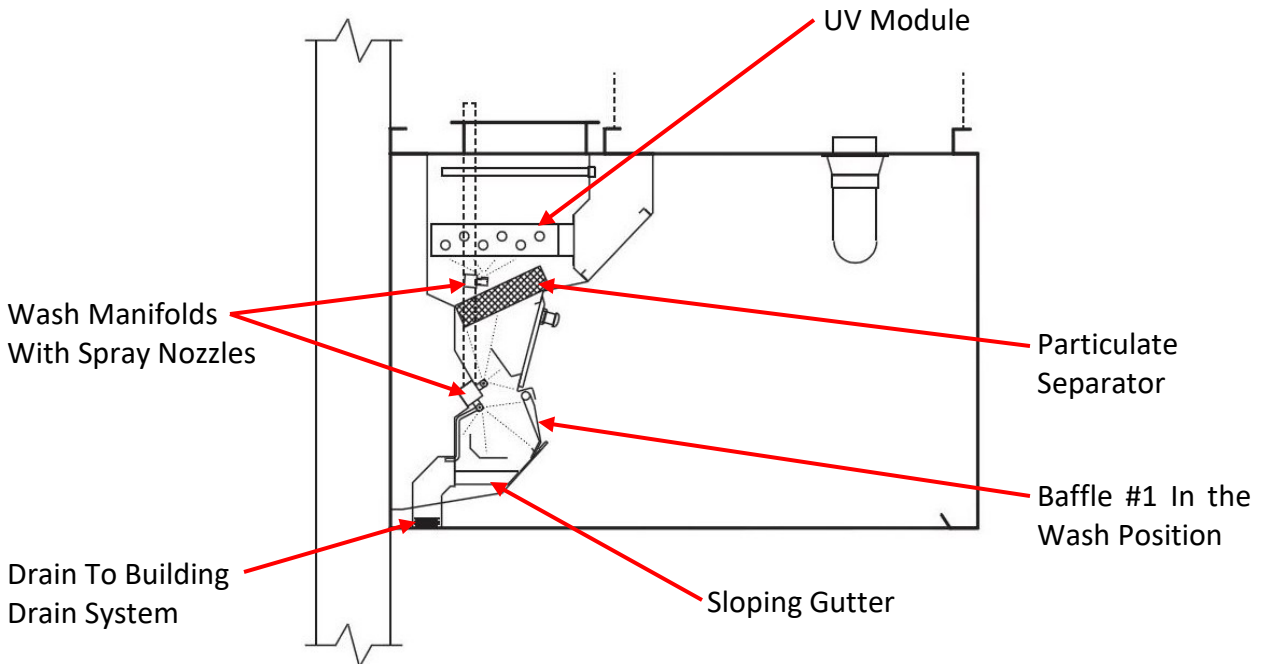

Figure 3-6-1
3. Baffle #1 begins closing forward to the wash position (Refer to Figure 3-6-1). This action takes approximately 45 seconds. **Note:** Baffle #1 only move to the wash position on Models CG3-UVi and CG3-UVi-FDL Series. Baffle #1 is fixed on Models CG3-UVi-FDT, CG3-UVi-FDD and CG3-UVi-ND. Refer to pages 1-5 and 1-6 for complete explanation. **Important Note:** Refer to your Command Center Technical Manual for specific text displayed while the baffle #1 is moving to the wash position.
4. After baffle #1 closes to the wash position, the Wash Cycle comes on spraying hot, detergent injected water, through the spray nozzles washing away the day's grease, dust and lint accumulation from the baffles, the particulate separator, and gray dust from the UV Module, flushing it down to the main gutter which slopes to drain that leads to the building drain system (Refer to Figure 3-6-1). The Wash Cycle stays on for the length of time programmed in the Command Center. The typical wash times are 3 minutes for light-duty equipment, 4 minutes for light /medium duty equipment, 5 minutes for medium- duty equipment, 7 minutes for heavy-duty equipment and 9 minutes for extra heavy duty equipment. **Important Note:** Refer to your Command Center Technical Manual for specific text displayed while the Ventilator is in a Wash Cycle.
2. At the conclusion of a Wash Cycle, open the Extractor Inspection Doors and remove the Particulate Separators (Refer to Figure 3-6-1). Check the extractor area, Particulate Separators, and UV Lamps to ensure they are adequately cleaned. If the Particulate Separators are not clean, run them through a dishwasher. If overall cleaning appears to be inadequate, refer to the Troubleshooting procedure on Page 5-5 for corrective action.